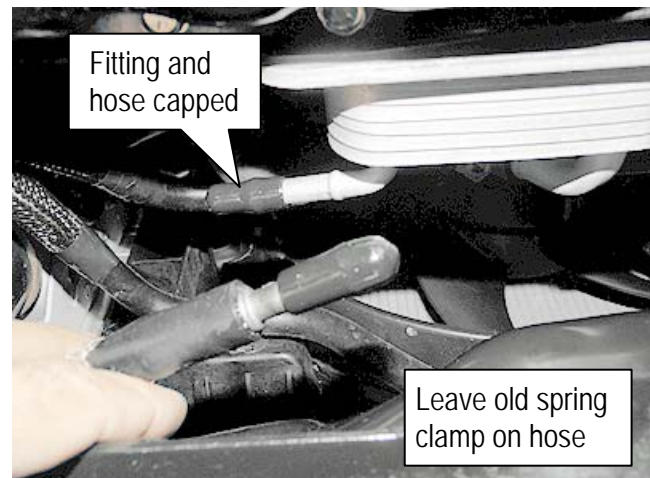

Figure 2
4. On the CVT, slide the "transmission to radiator cooler hose" spring clamp back onto the hose, away from the fitting, and then remove the hose from the fitting (Figure 2).